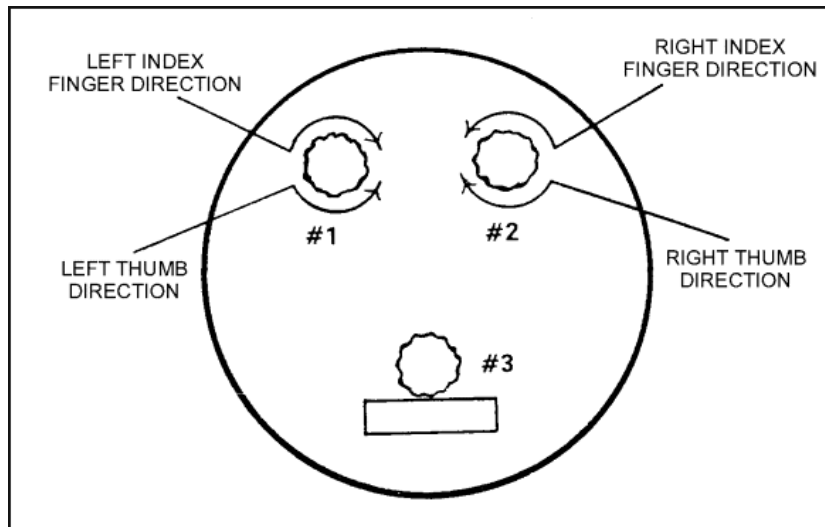

Figure 2-6. Leveling screws.
d. Loosen the leveling screws to expose sufficient threads ($3/8$ to $1/2$ inch) on the three screws to permit the instrument to be leveled. Number the leveling screws clockwise, 1, 2, and 3 (Figure 2-6). Now place the tubular level vial over the notation pad. Grasp leveling screw number 1 between the thumb and forefinger of the right hand, and grasp leveling screw number 2 between the thumb and forefinger of the left hand. Turn the screws so that the thumbs move toward or away from each other. Using these two leveling screws, center the bubble. The bubble moves in the same direction as the left thumb.